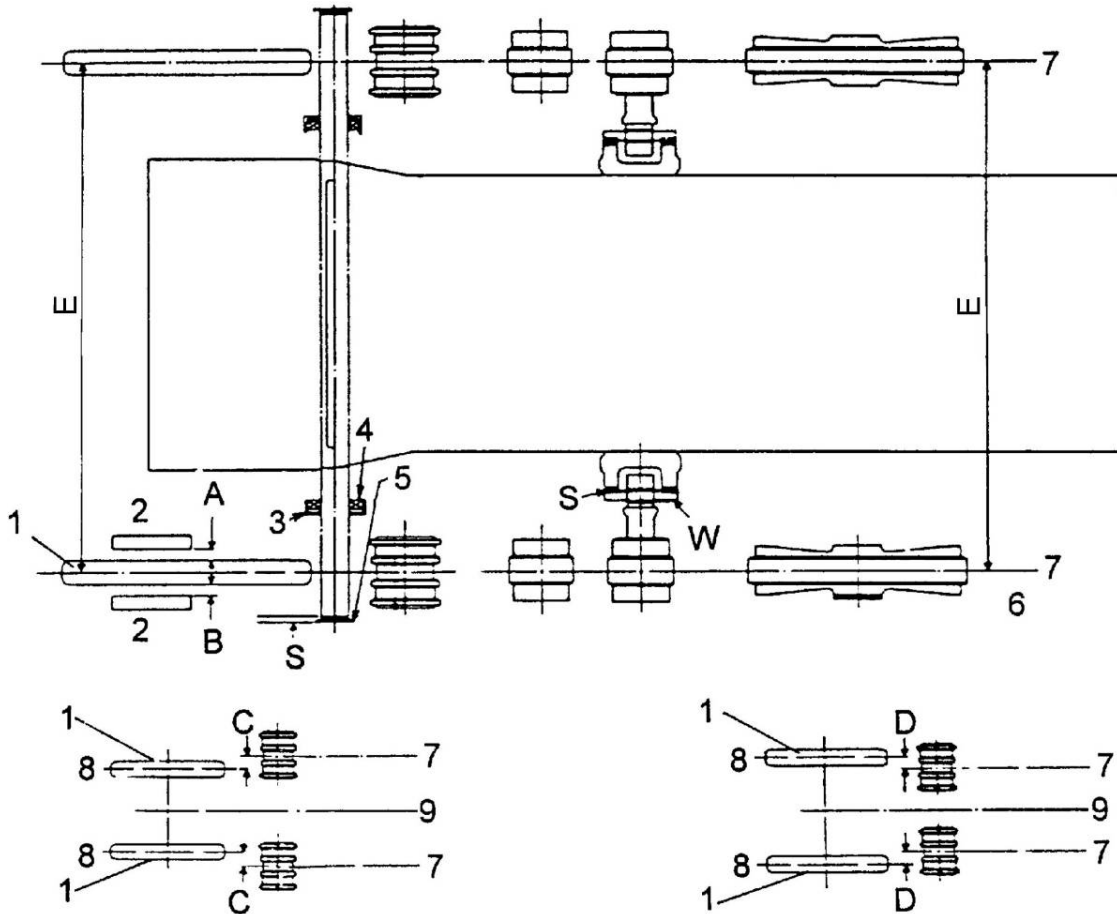

Fig. 14.59. Track Frame Alignment
51. TRACK FRAME ALIGNMENT (Refer to Fig. 14.59)